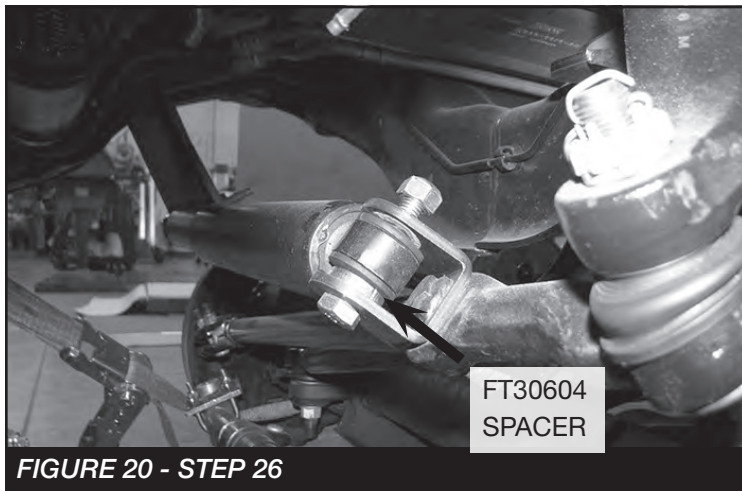

FIGURE 18 - STEP 24
24. **(PASSENGER SIDE)** Install FT30659 (Brake line bracket) to the factory brake line tab using the supplied 3/8" hardware (Use lower hole). Next, using the supplied rubber clamp and 1/4" hardware, attach the ABS line to the upper hole on the FT30659 bracket. Re attach to the frame using the factory hardware. Torque 3/8" & factory hardware to 52 ft-lbs. Torque 1/4" hardware to 14 ft-lbs. **SEE FIGURE 18**